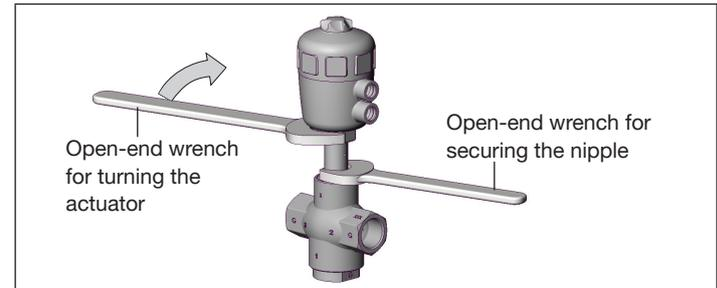

Fig. 2: Turning with open-end wrench
- Place a suitable open-end wrench on the hexagon of the actuator (see "Fig. 2").
- ▶ Turn the actuator in the specified sense of direction only (see "Fig. 2").